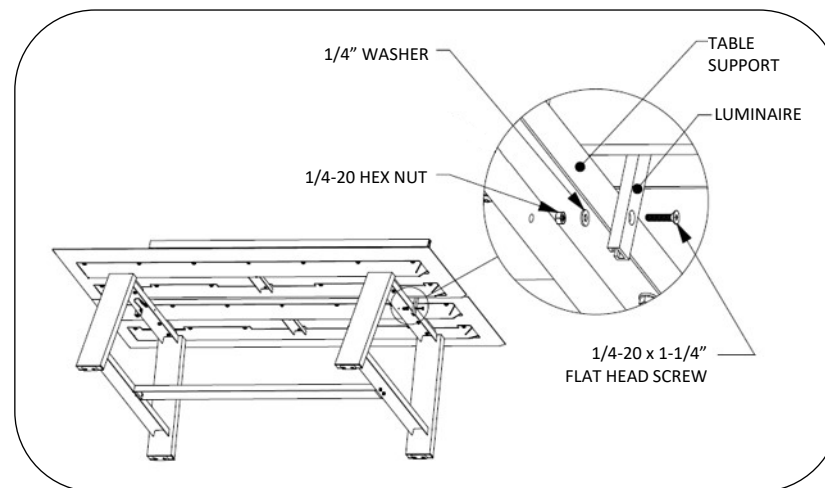

Fig. 1 – attach luminaire to tabletop frame
1. Attach luminaire assembly to tabletop frame using hardware shown in Fig. 1. Tabletop slats should be snug against luminaire verticals. If luminaire doesn't fit between tabletop slats, loosen table leg attaching hardware to adjust accordingly.